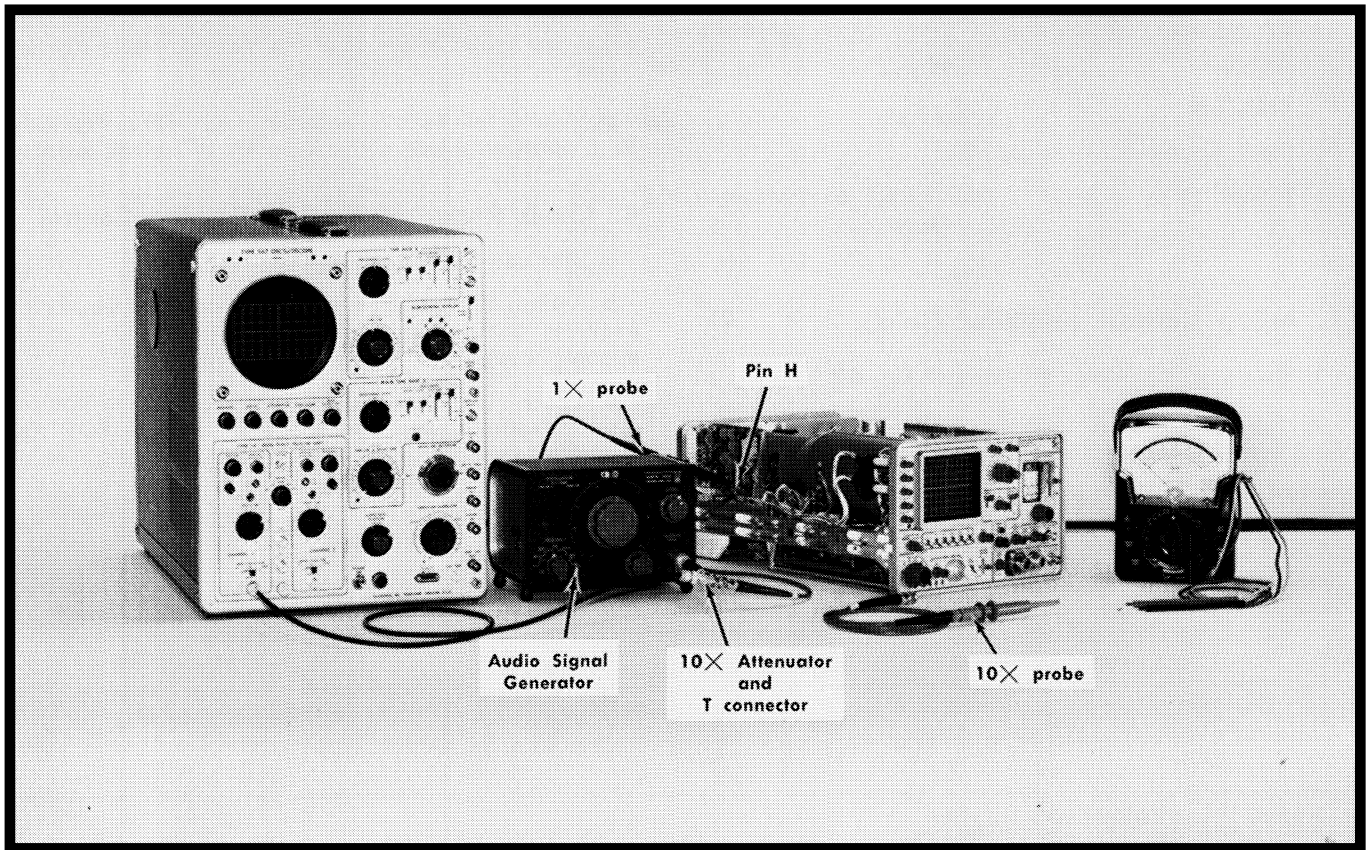

Fig. 6-11. Equipment setup for adjusting and checking triggering.
9. Adjust Trigger Level Centering ①
a. Equipment setup is shown in Fig. 6-11.